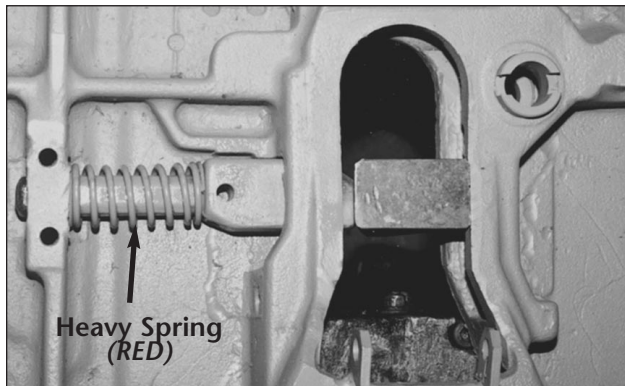

FIGURE 5
1. To begin, install the (**red**) spring (1) in the casting.
2. Start the $\frac{3}{8}$ " square head set screw (13) into the plunger (2) six full turns and lubricate the plunger with a light grease.
3. Install the plunger (2) into the casting with the set screw (13) facing the open end of the top plate. Secure the plunger by compressing the spring with the helper block until the plunger is flush with the throat of the casting (*see Figure 5*).